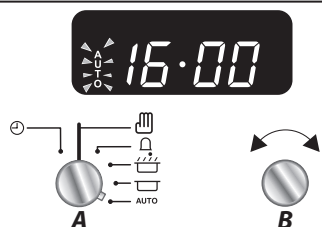

Fig. 3.14
To cancel any automatic settings turn the **Timer (A)** knob to the **Manual (D)** setting and release (Fig. 3.14).